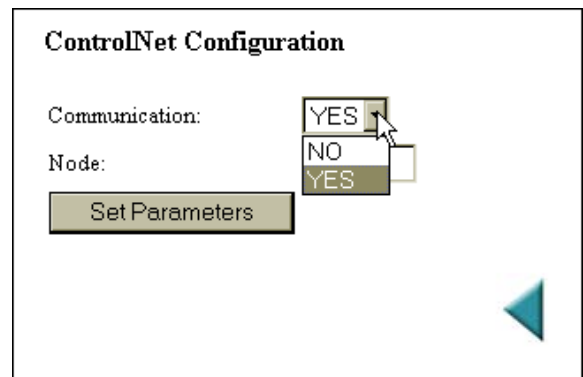

FIG. 60: CONTROLNET PAGE/ACTIVATING CONTROLNET
Step 3. Click on View ControlNet Configuration. The ControlNet Configuration page appears. (See Fig. 60)